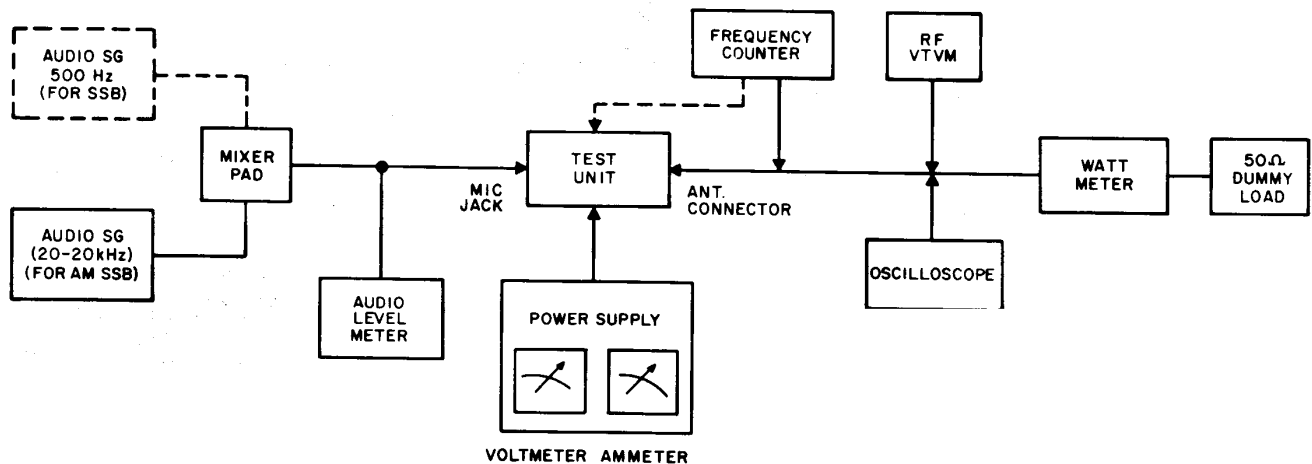
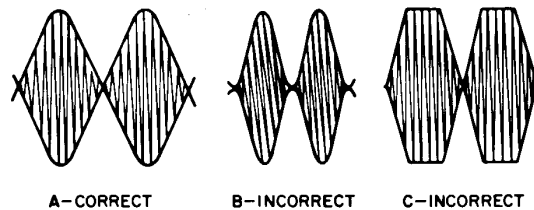

Figure 7 – Test Equipment Hook-Up – Transmitter
Figure 8 — Modulation Envelope
Connect test equipment to the transceiver as shown in the block diagram below, Figure 7. To activate the transmitter without using the microphone, use the dummy microphone plug wired as shown in Figure 6A. This plug is also used to introduce a modulating audio signal to the microphone input circuit as described in the following procedure.
- c. Connect oscilloscope and 50 ohm dummy load across ANT connector, see Figure 7.
- j. Feed two 25 mV signals, one at 500 Hz, the second at 2400 Hz (see Figure 7) into MIC input. Adjust RV2 for PEP of 10 watts. Check on each channel that PEP is between 9 and 11 W. Also check that scope display conforms to "A" in Figure 8. (For additional reference see FCC Bulletin OCE43 of 4/77 and EIA Standard RS424).